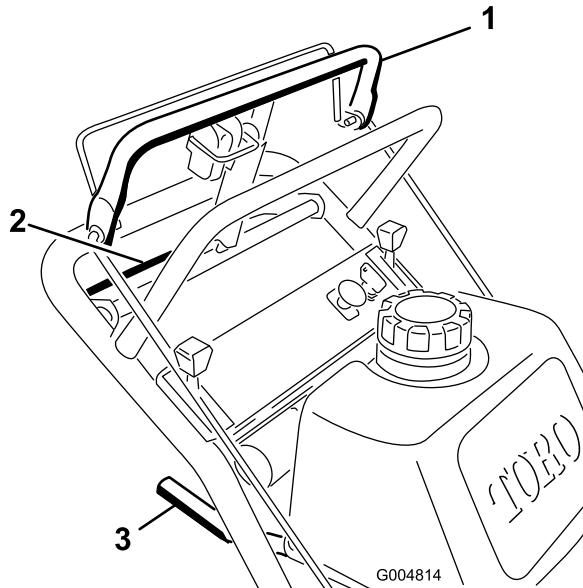
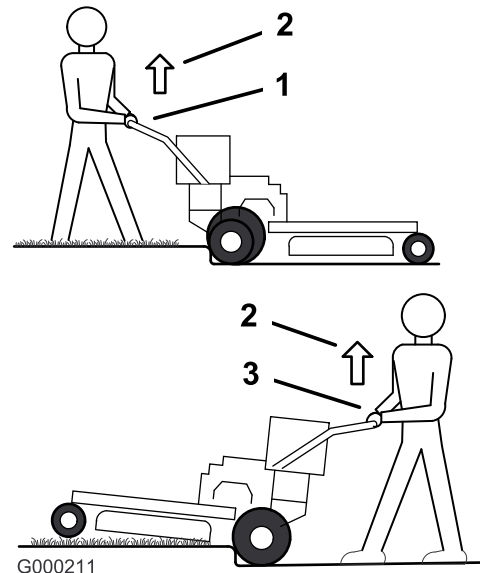

Figure 17
Figure 18
1. To go forward, move the shift lever to a forward gear (Figure 17).
3. Slowly press on the upper control bar to move forward (Figure 17).
To go straight, apply equal pressure to both ends of the upper control bar (Figure 17).
To turn, release pressure on the upper control bar side in the direction you want to turn (Figure 17).
3. Slowly squeeze the lower control bar and lower handle together to move rearward (Figure 17).
3. Drive machine until the castor wheels contact curb (Figure 18).
4. Lift the front of the machine by pushing down on the lower handle (Figure 18).
5. Drive the machine until drive wheels contact the curb (Figure 18).
6. Lower the front of the machine (Figure 18).
7. At the same time engage the lower control bar and lift up on the lower handle to drive over the curb (Figure 17 and Figure 18).
3. Drive the machine until drive wheels contact curb (Figure 18).
4. At the same time engage lower control bar and lift up on the lower handle (Figure 17 and Figure 18).